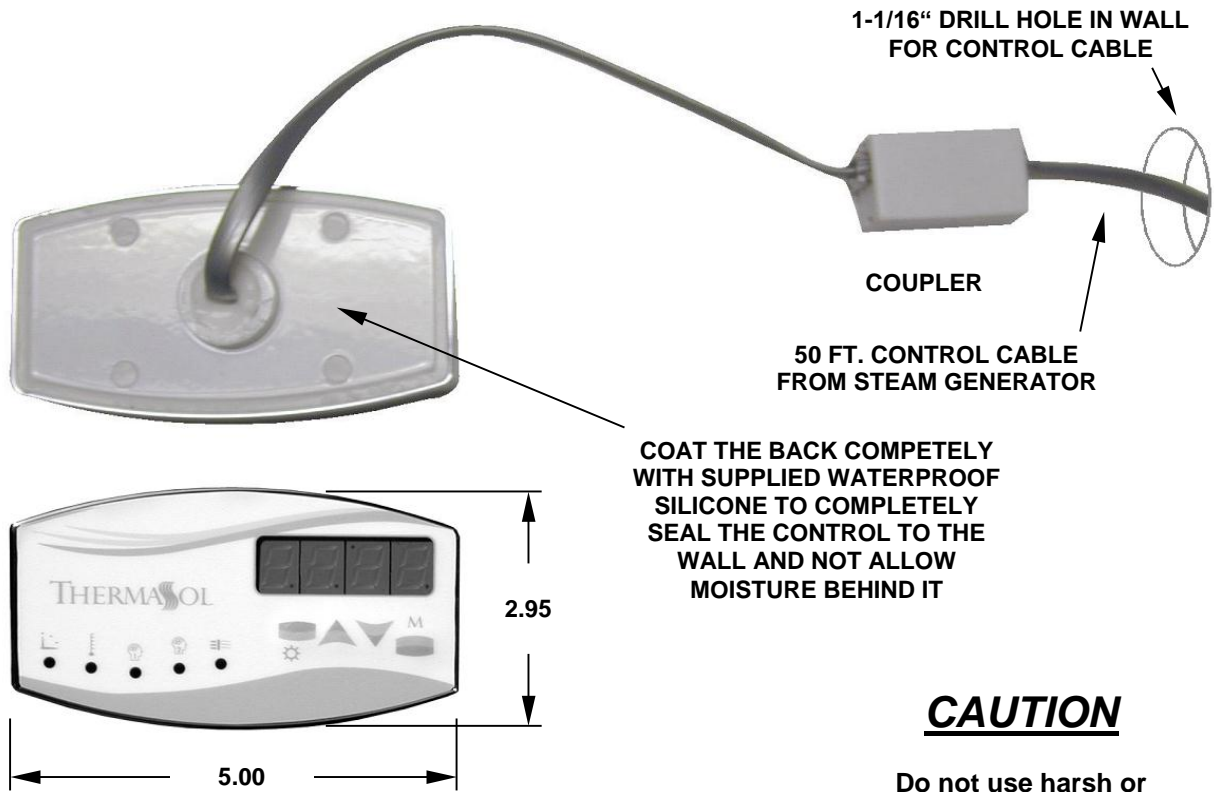

Figure 8
2. The **Elite** control (shown in Figure 8) **MUST** be located **INSIDE** the enclosure.